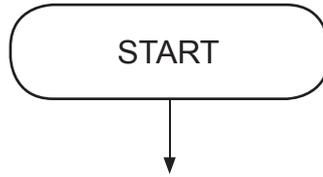

**Fig. 7** © tarras / iStock / Thinkstock
- 9 **Fig. 7** shows an outline plan view of the layout of a semi-automatic barrier system for a car park.